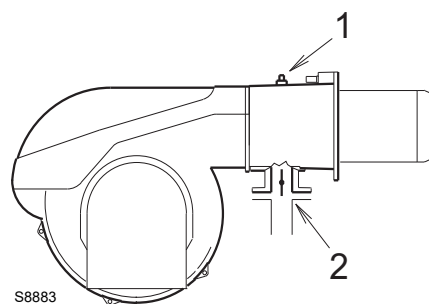

Fig. 25
Gas pressure measured at test point 1)(Fig. 25), with:
Pressure drop at gas butterfly valve 2)(Fig. 25) with maximum opening: 90°.
- subtract the combustion chamber pressure from the gas pressure measured at test point 1)(Fig. 25).
To calculate the required gas pressure at test point 1)(Fig. 25), set the maximum modulating output required from the burner operation:
- Read, on the right (column 1), the pressure at the test point 1)(Fig. 25).
pressure required at test point 1)(Fig. 25).